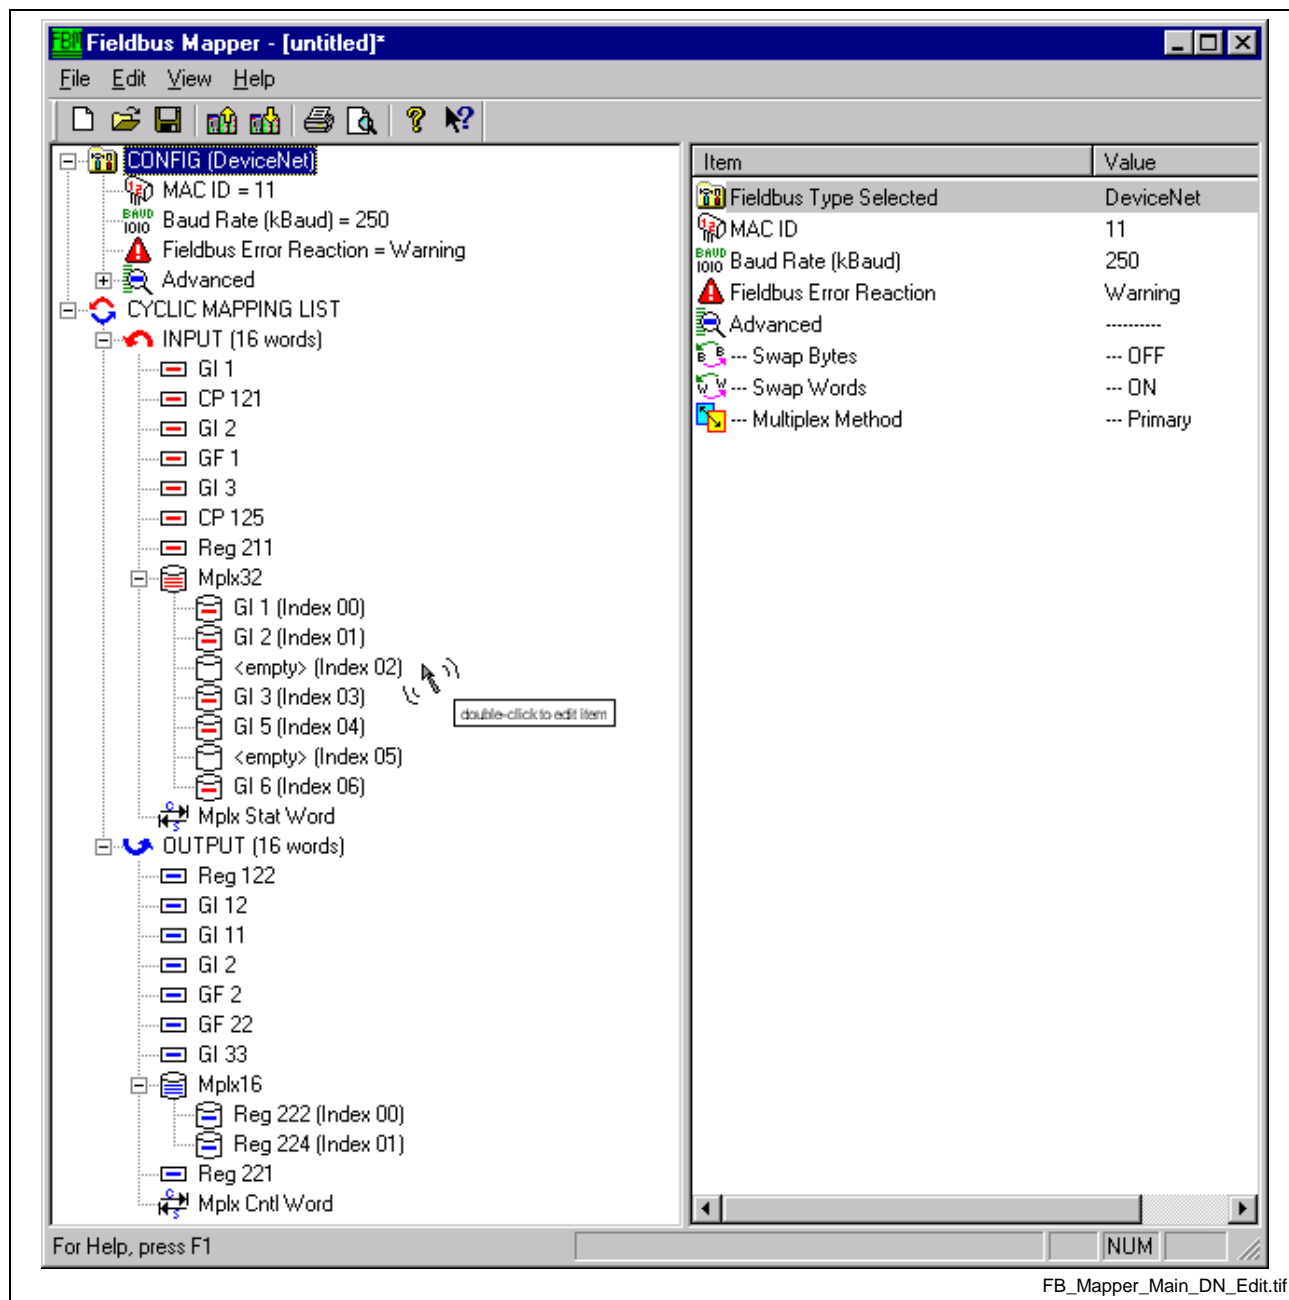

Fig. 7-6: Fieldbus Mapper Main Screen (Complete)
3. Click **Open**. The main Fieldbus Mapper screen appears, which lists the configuration information. Refer to Fig. 7-6 below.